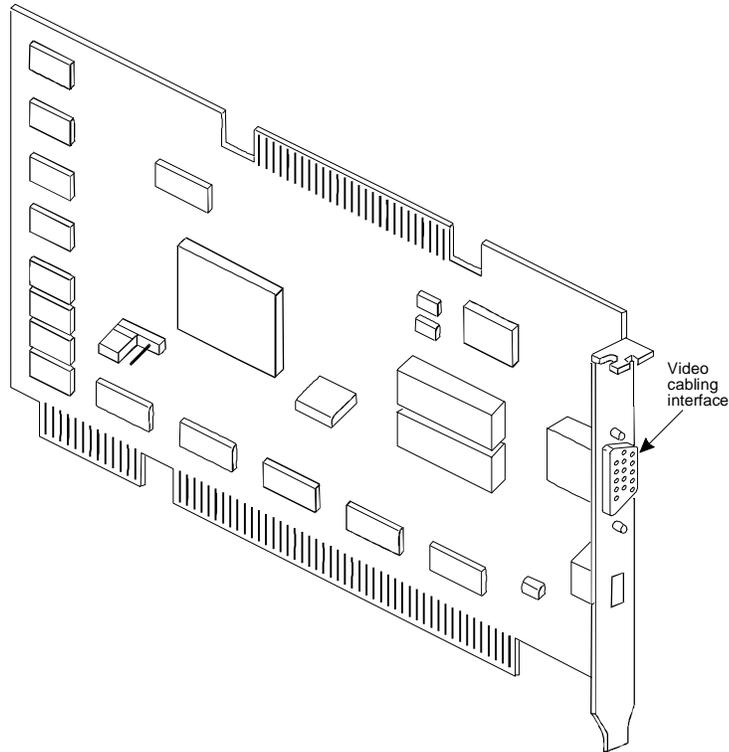
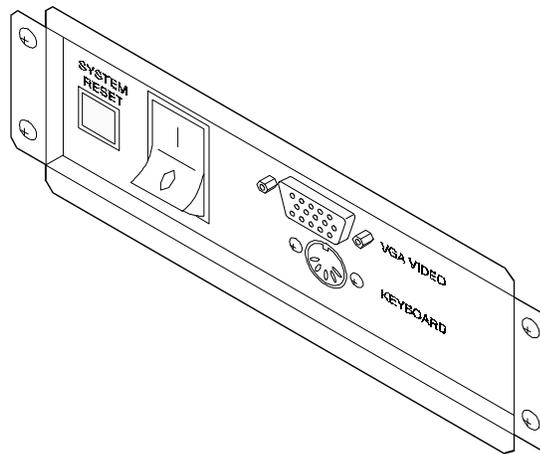
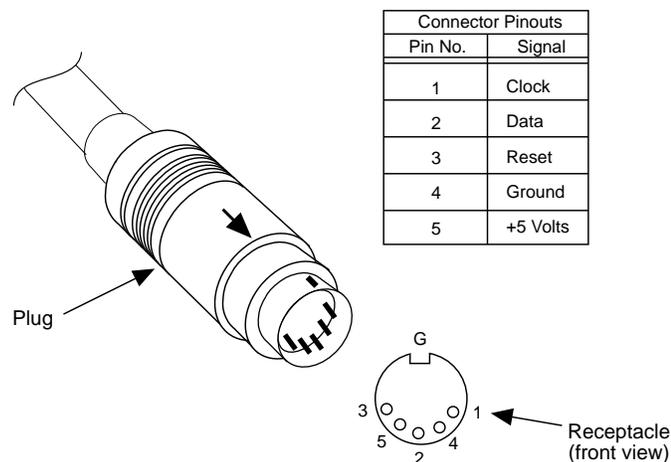

Figure 3-2. Location of the Video Cabling Interface on the Video Controller Circuit Card
Figure 3-3. Video Connector Behind Front Door
Figure 3-5. Pinout Connections for Keyboard—Circular DIN
2. Plug the signal cable connector from the monitor directly into the video connector on the Video Controller card. This is a 15-pin, high-density D subminiature female connector located on the faceplate (Figure 3-2).
In some installations where a monitor may not be provided for all units, and particularly in rack-mount installations, there is a video connector on the front of the unit, behind the right door (Figure 3-3). Use this connector to install a temporary monitor for MAP/100 diagnostic work.
2. Plug the VGA Port jumper cable into the connector labeled "VGA Video" in the rear upper left corner of the MAP/100 (Figure 3-3). Plug the other end directly into the 15-pin, high-density D subminiature female connector located on the faceplate of the Video Controller circuit card (Figure 3-2).
There is a 5-pin, female DIN connector in the rear, upper-left corner of the MAP/100. Use this connector for all permanent keyboard connections. Figure 3-5 shows the pinouts for this connector receptacle.
There is a second keyboard connector behind the right front door of the MAP/100 (see Figure 3-3). This port is provided as a convenience for diagnostic purposes only. Figure 3-5 shows the pinouts for this connector receptacle.